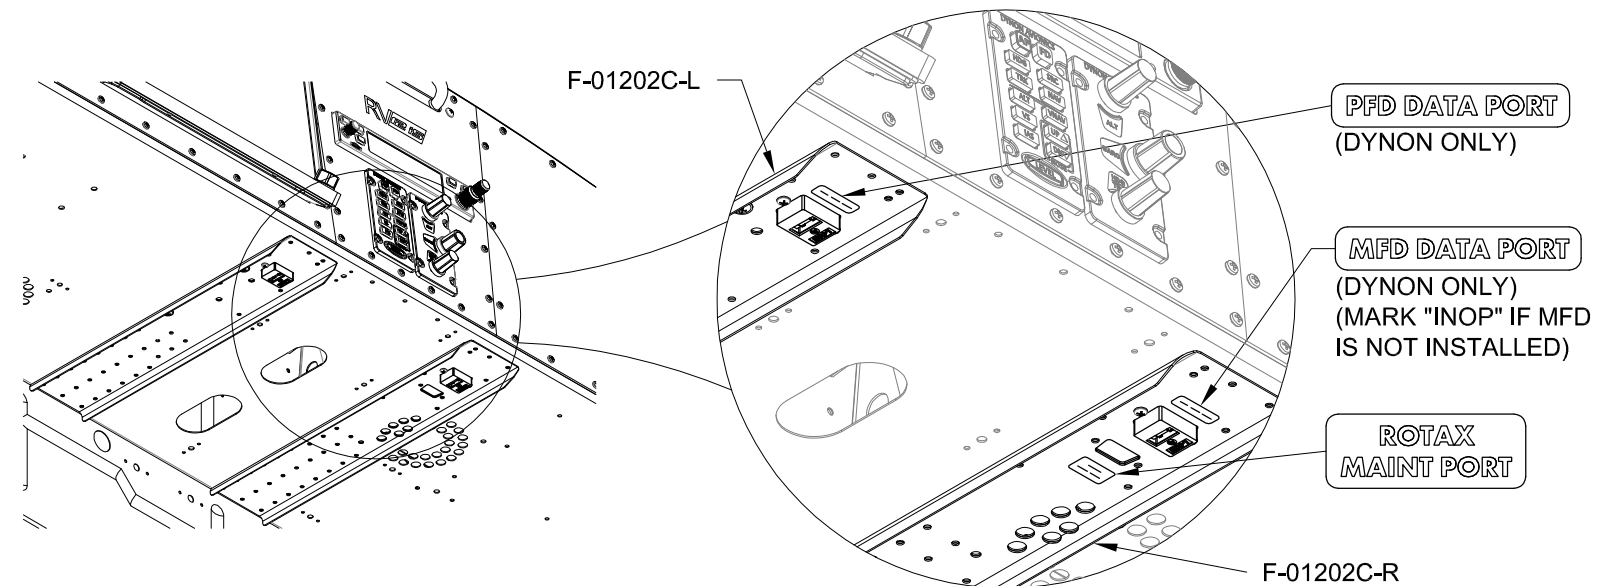

FIGURE 2: DYNON & BUDS DATA PORT LABEL PLACEMENT
Step 3: Attach the ROTAX MAINT PORT label to the underside of the instrument panel as shown in Figure 2.
Step 4: (DYNON only) Attach the PFD DATA PORT and MFD DATA PORT labels next to the ports in the F-01202C-L and -R under the instrument panel as shown in Figure 2.